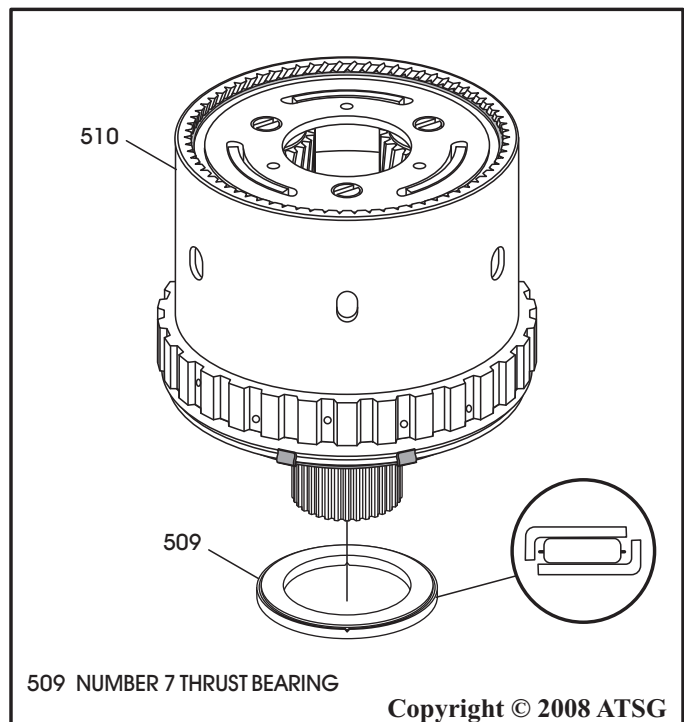

Figure 110
17. Install the number 7 thrust bearing, as shown in Figure 110, and retain with a small amount of Trans-Jel®.